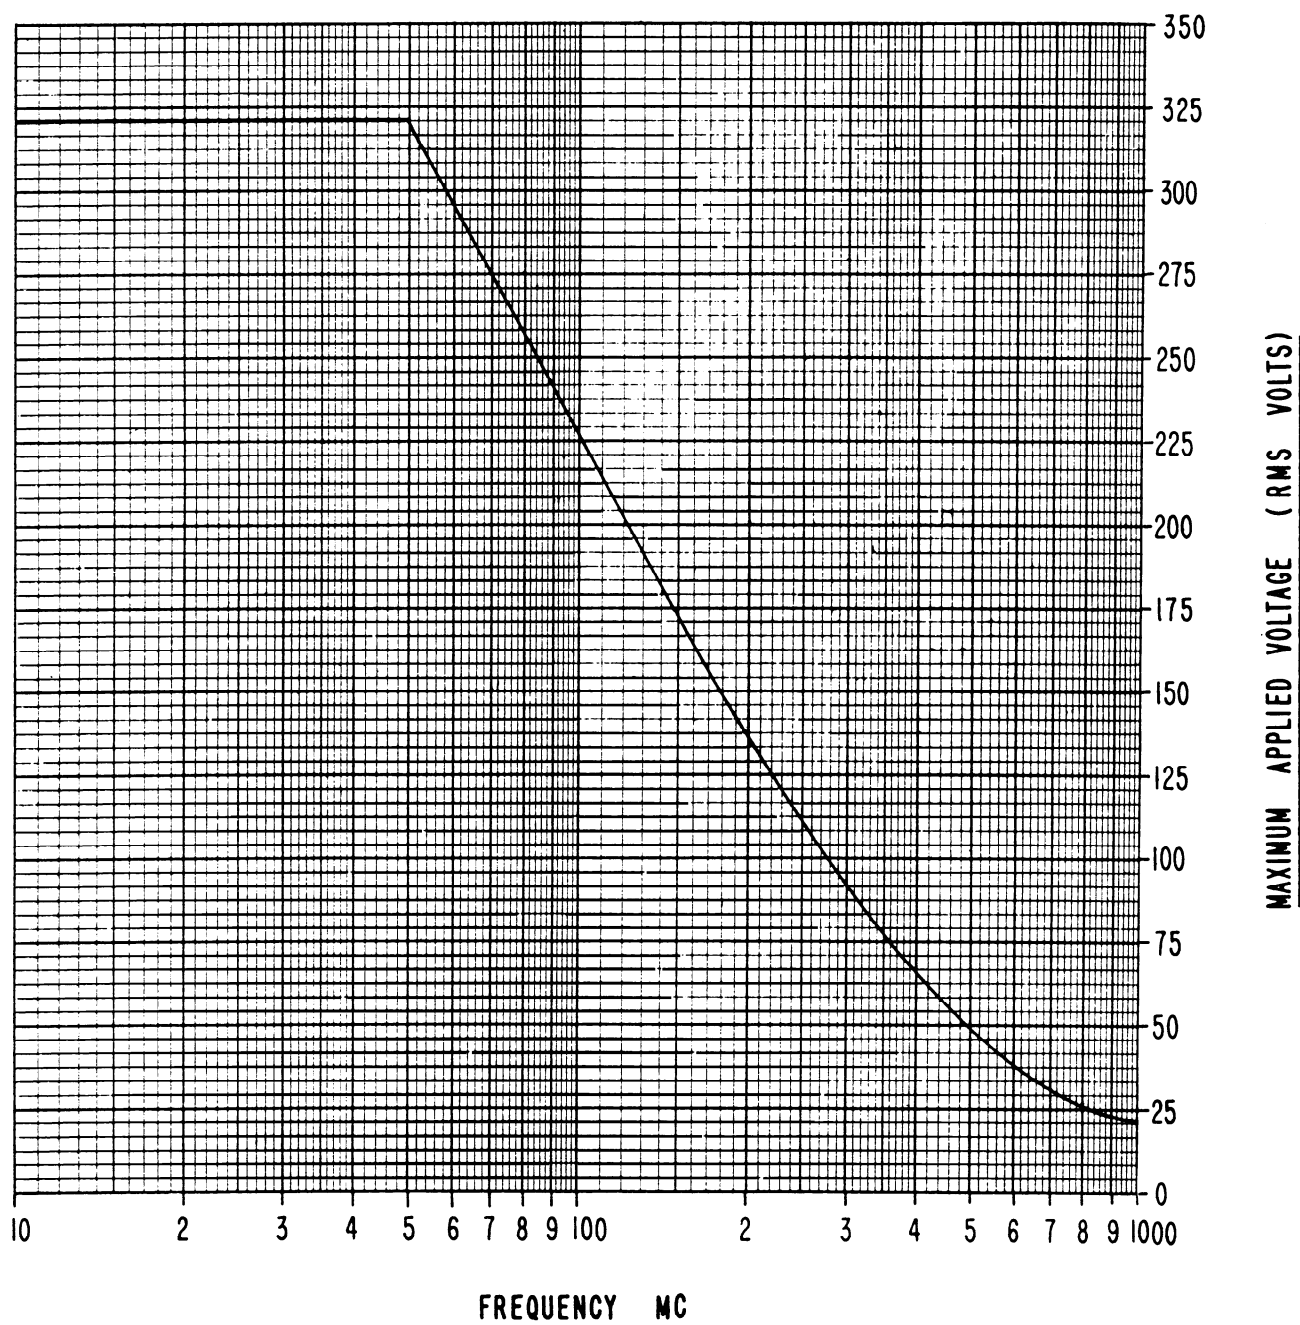

Figure 2-2. Maximum Voltage that can Safely be applied to AC Probe for Frequencies above 50 Megacycles
**CAUTION:** The ac probe blocking capacitor is rated at 500 volts, do NOT connect the ac probe to higher voltages. Before measuring voltages above 50 megacycles, consult Figure 2-2 a graph of maximum applied voltage vs. frequency. Certain other precautions apply to ac voltage measurements, they are discussed in paragraph 2-8.